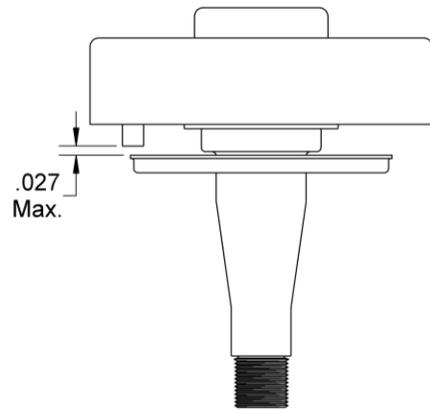

Figure 7 – ABS Sensor & Tone Ring Gap
8. Check physical gap between the sensor and tone ring (**Figure7**).The maximum allowable gap is .027 inch. If the gap is greater than .027 inch, press on the wire lead end of the sensor and push the sensor into contact with the tone ring. Check that the ABS spring retainer and bushing are not unseated. Re-seat components as needed.